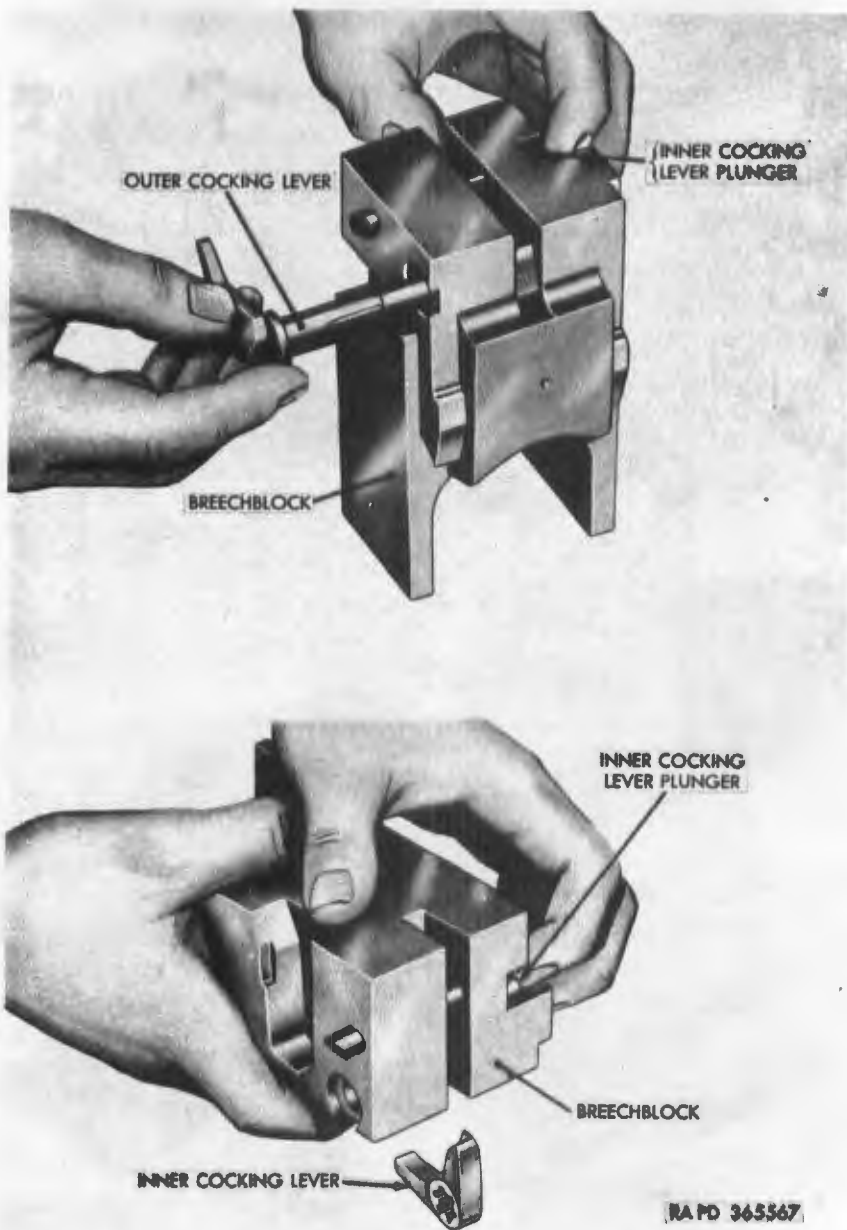

Figure 307. *Withdrawing outer and inner cocking levers.*
- (c) Press inner cocking lever plunger inward and withdraw outer cocking lever (fig. 307).
- (d) Press inner cocking lever plunger, turning breechblock so that front face is down, and shake to dislodge inner cocking lever (fig. 307).